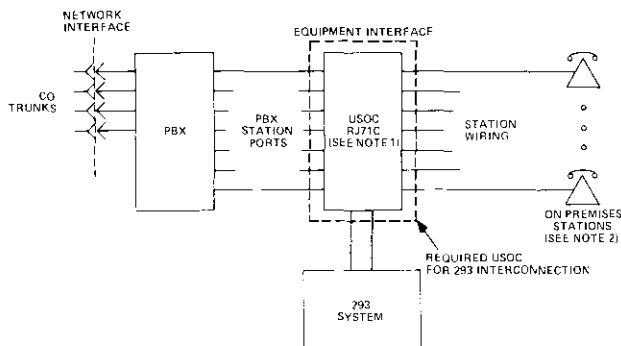

figure 12. Typical 293 System arrangement with PBX interface
configured as shown in figure 12
7.11 Figures 12 and 13 in this section show typical 293 System equipment configurations, while tables 1 and 2 provide a sample information table for each. These sample tables are representative of the information that the customer must supply to the serving telephone company in regard to installation of registered 293 Systems. Be aware that it is the responsibility of the customer at the time USOC's are ordered to specify the sequence in which CO or PBX lines are to be connected. To determine the exact cable pair assignments, use table 1, the "293 USOC Assignment Worksheet" supplied in section 2 of the 293 System Installation Practice. For 293 Systems larger than 100 stations, multiple sheets are required.